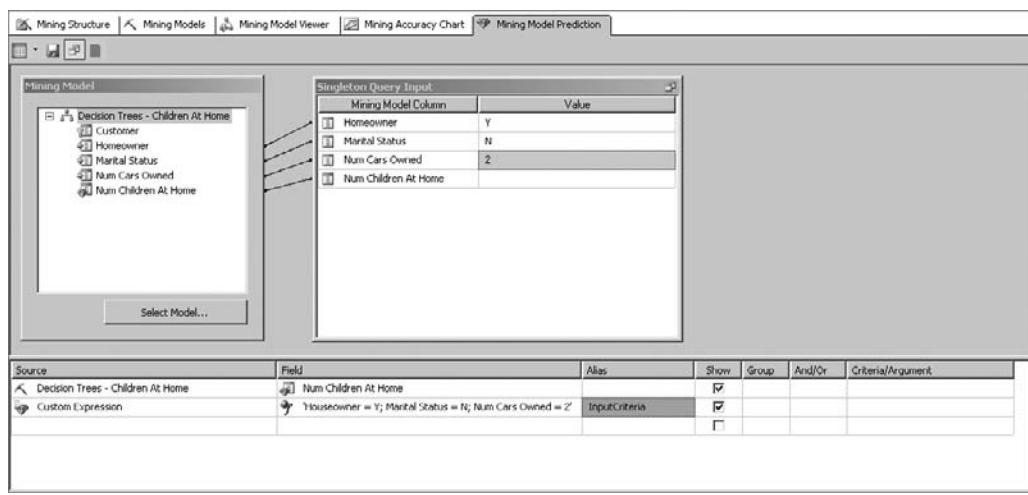

Figure 15-14 The completed singleton query
12. In the second row under the Alias column, enter **InputCriteria**. The Mining Model Prediction tab appears as shown in Figure 15-14.